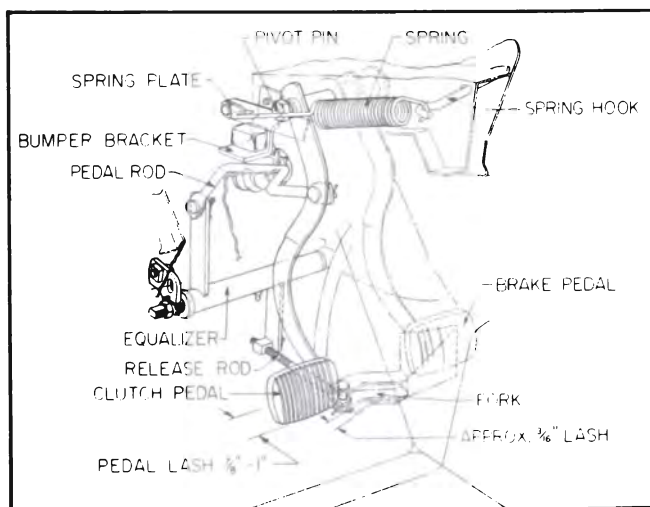

Figure 4-3—Clutch Linkage
The clutch pedal is of the suspended type and pivots on a shaft which extends through brackets bolted to the cowl. This shaft is also used to suspend the brake pedal. The clutch pedal returns against a non-adjustable pedal stop under the instrument panel. See Figure 4-3
Check pedal lash (free pedal) by pushing on the pedal pad with the hand. Pedal lash should be 7/8" to 1" measured at the pedal pad. (See Figure 4-3).
2. With car raised, pull outer end of clutch fork rearward until throw-out bearing contacts clutch release levers. Free movement at outer end of fork should be approximately 3/16". See Figure 4-3. This should give correct lash at pedal.